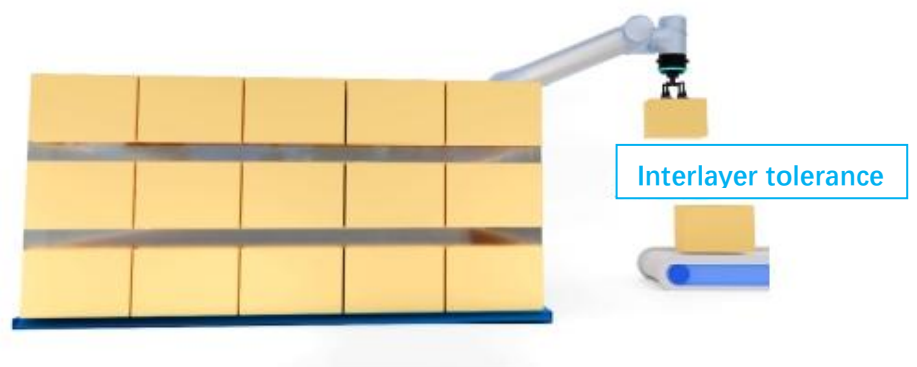
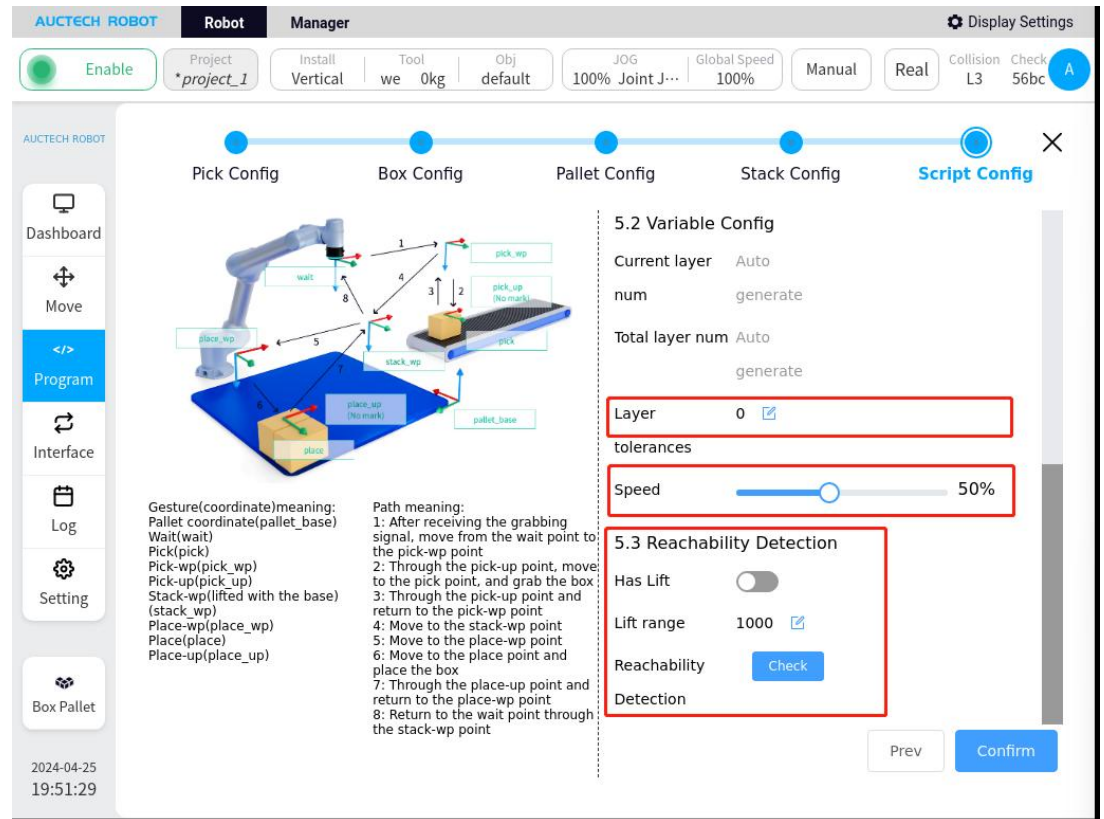

Figure 34
Figure 35
2、 Interlayer tolerance setting (in Figure 35), the effect is shown in Figure 34.
3、 Motion speed, as shown in Figure 35.
As shown in Figure 35, the speed or speed of the actual motion can be adjusted by pulling the per
4、 Reachability test, as shown in Figure 35.